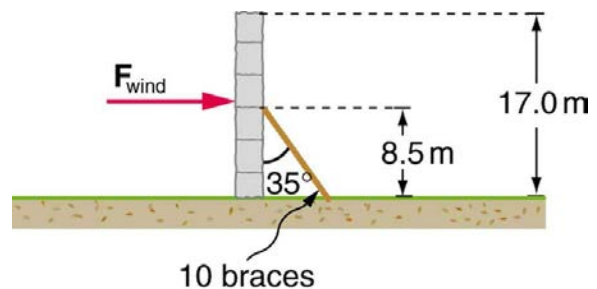

Figure 9.33
- A 17.0-m-high and 11.0-m-long wall under construction and its bracing are shown in **Figure 9.33**. The wall is in stable equilibrium without the bracing but can pivot at its base. Calculate the force exerted by each of the 10 braces if a strong wind exerts a horizontal force of 650 N on each square meter of the wall. Assume that the net force from the wind acts at a height halfway up the wall and that all braces exert equal forces parallel to their lengths. Neglect the thickness of the wall.